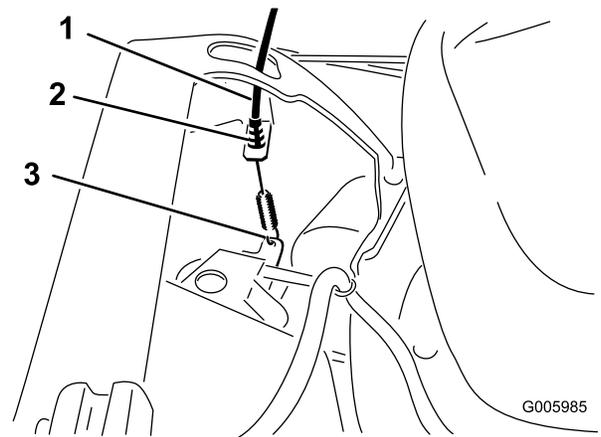

Figure 7
4. For self-propel models, route the self-propel drive cable down the inside of the handle, thread the cable through the opening on the left hand side of the housing, and attach the cable end (Figure 7).